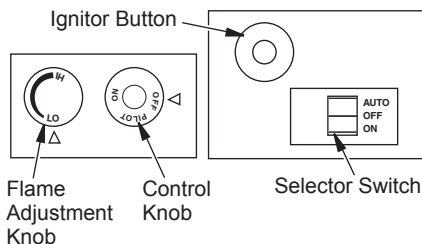

Figure 32 - Control Knob and Ignitor Button Location (Shown as Supplied, No Control Options)
5. Wait five (5) minutes to clear out any gas. Then smell for gas, including near the floor. If you smell gas, **STOP!** Follow "B" in the safety information in column 1. If you don't smell gas, go to the next step.
6. Press in and turn control knob counter-clockwise  to the PILOT position. Press in control knob for five (5) seconds (see Figure 32).